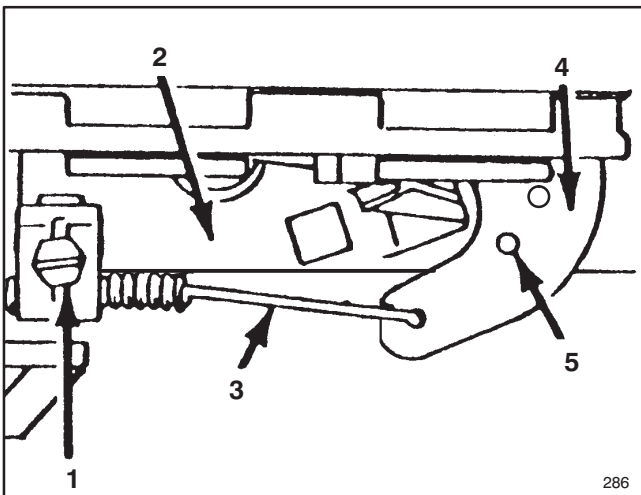

Figure 19
- Loosen cable clamp screw until throttle cable slides (Fig. 19).
- Move throttle cable left or right until holes in throttle lever and throttle bracket align (Fig. 19).